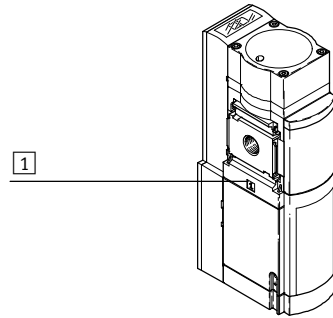

Fig. 15 Flow direction
- Observe the flow direction from 1 to 2. The numerals **1** and **2** on the product housing serve as an orientation (→ Fig. 15).